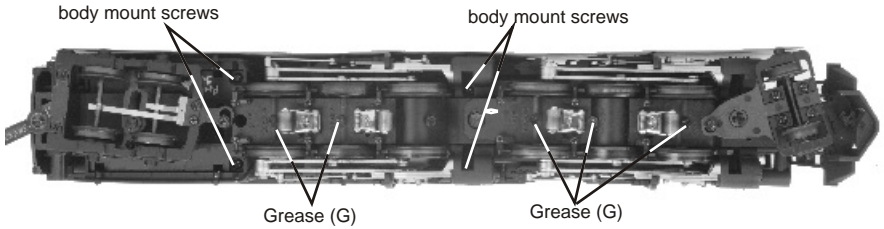

Figure 6: Removing the Body and Lubricating the grease points
2. Remove the Phillips screws (marked “GREASE”) located at each set of wheels and under pick up rollers (Fig. 6).
You should grease the leading and trailing locomotive truck tongues to enhance their ability to slide on the chassis. Follow the grease points shown on Fig. 6.